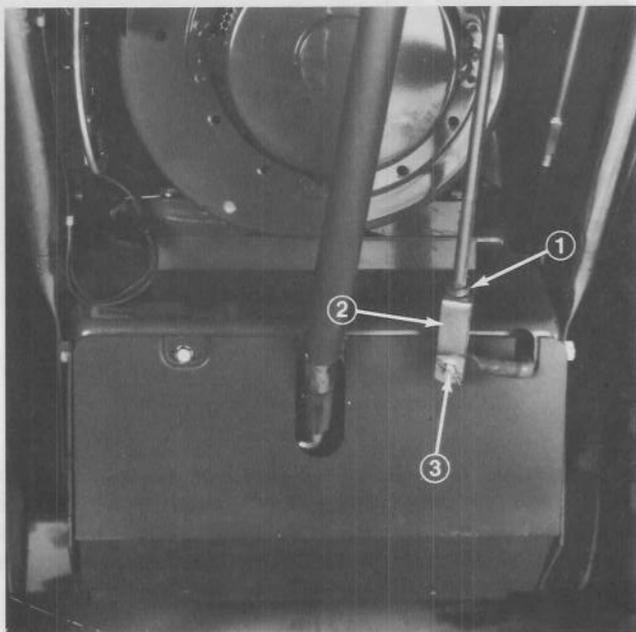

Figure 39
1. Loosen jam nut from clevis at bottom of auger drive control rod (Fig. 39). Remove cotter pin and clevis pin holding clevis to bent rod (Fig. 39).
2. Rotate clevis (Fig. 39) counterclockwise – out – to increase belt tension. By contrast, rotate clevis clockwise – in – to decrease belt tension.
3. Connect clevis to belt rod with clevis pin and cotter pin (Fig. 39). Tighten jam nut against top of clevis (Fig. 39).